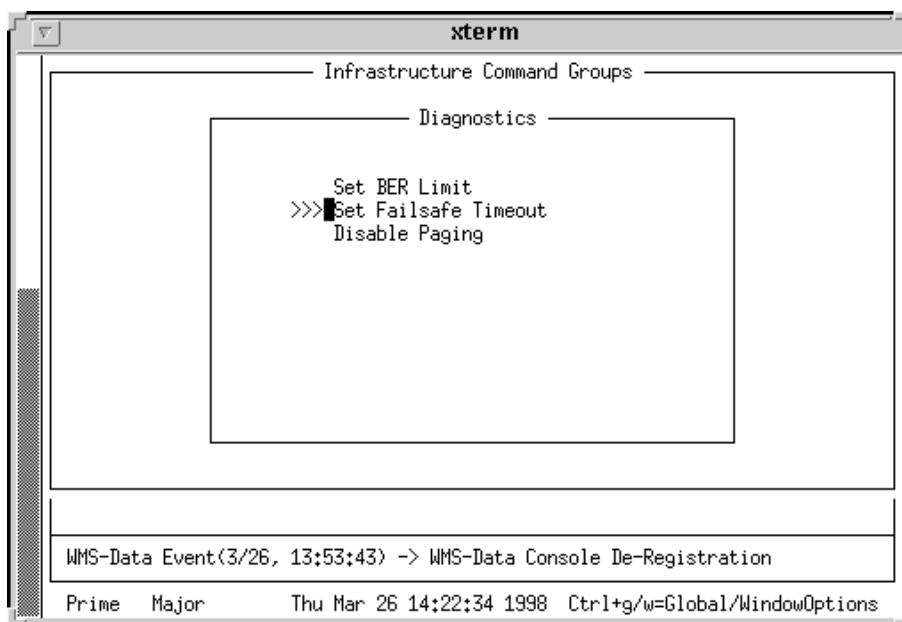

Figure 5-19: Diagnostics Screen—Set Failsafe Timeout
1. From the Diagnostic menu, use the <tab> to position the cursor to the left of the listing Set Failsafe Timeout and press: <Return> (see Figure 5-19).